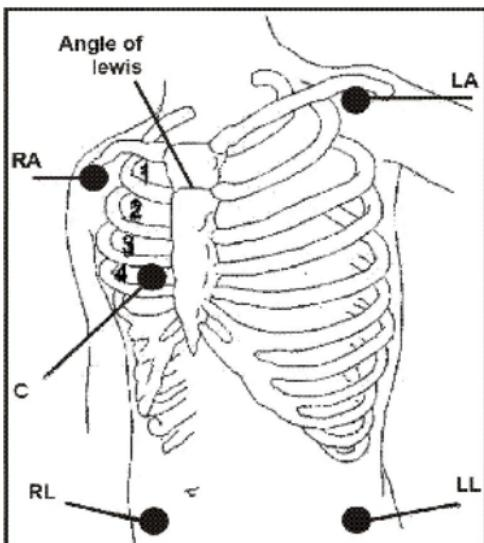

Figure 4-2 ECG 5-lead electrode placement
5-lead electrode placement (Figure 4-2)
Chest (C): white electrode, placement is shown in the figure 4-2.